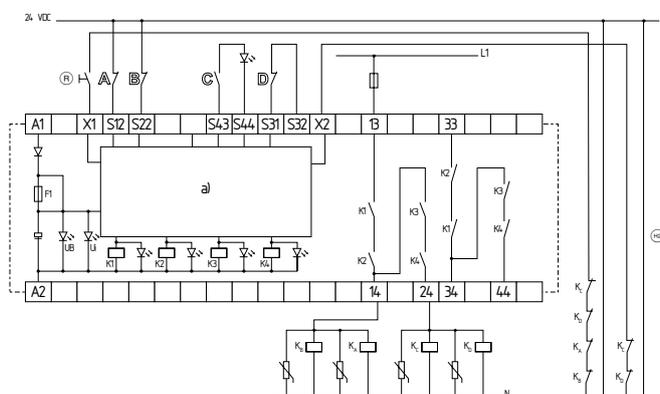

Fig. 3: SRB400CA, SRB400CA/T, SRB400CA/Q, SRB400CA/QT
Dual-channel control, shown for an emergency stop circuit; with two contacts A and B and a guard door monitor with two contacts C and D, where at least one is a positive break contact; with external reset button (R) (related on the switch-off level 1) (see Fig. 3)
- (R) = Feedback circuit